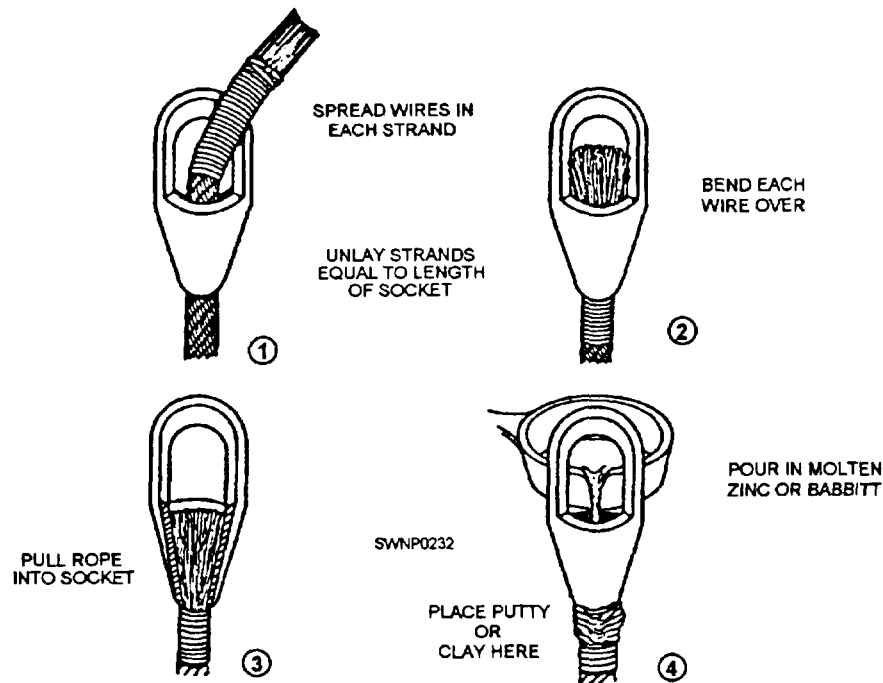

Figure 5-13.—Attaching a basket socket by the pouring method.
**POURED METHOD.**— The poured basket socket (fig. 5-13) is the preferred method of basket socket assembly. Properly fabricated, it is as strong as the rope itself, and when tested to destruction, a wire rope will break before it will pull out of the socket. When molten lead is used vice zinc, the strength of the connection must be approximately three fourths of the strength of a zinc connection